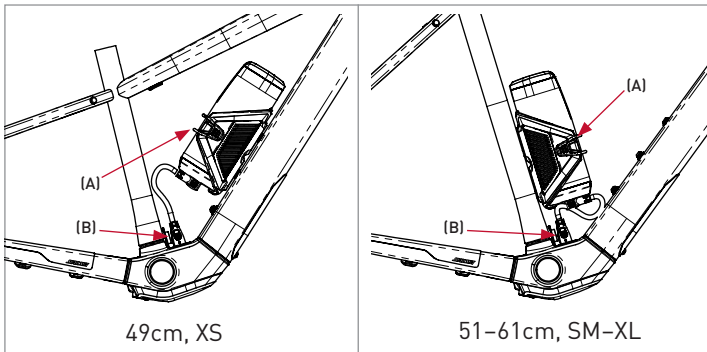

Figure 9
4. Place the external battery eX1 range extender into the bike holder cage, attach the range extender cage strap (A), and attach the range extender cable (B) to the range extender and the charge port with the plugs positioned as shown for your bicycle frame size (Figure 9).